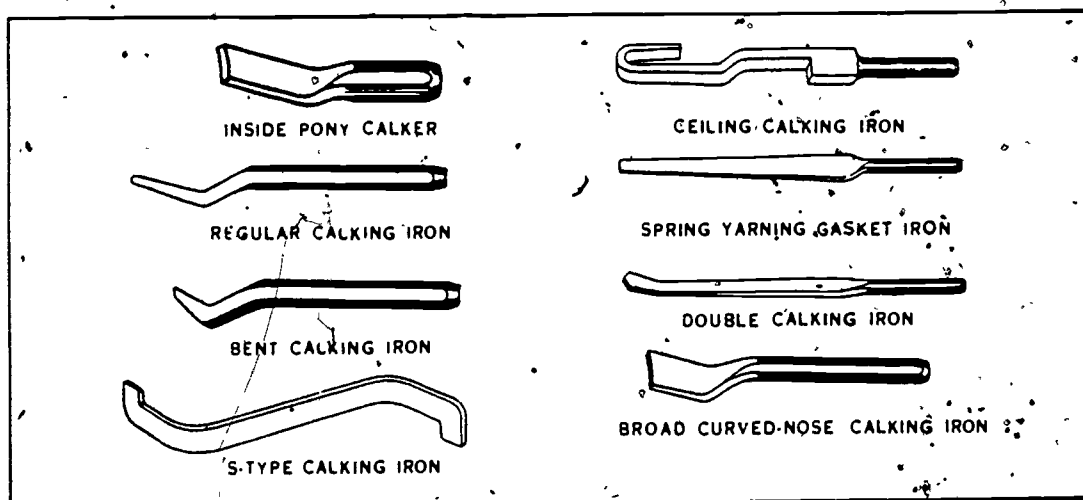

Figure 3-42. Calking irons.
**Calking irons.** Calking irons are used for setting the lead in cast-iron pipe joints. Different shaped irons, some of which are shown in figure 3-42, are used in calking. Yarning irons are used to pack the oakum into the pipe joint, while calking irons are used to pack the lead. The reason for having so many different calking irons is that each one fits a particular kind of job. For instance, the ceiling calking iron is the only one that can be used to calk a joint next to a ceiling. The calking irons should have a good calking surface and should be sharpened on a bench grinder to maintain an even or angular surface. Coat the irons with a thin film of oil to keep them from rusting.